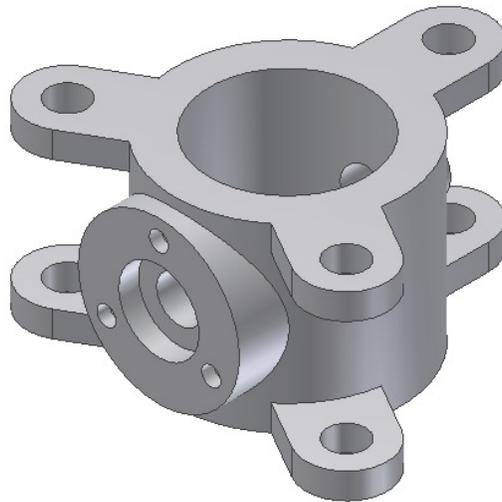

Figure 7-85 Final model after editing the features
f. After creating the features, edit them as mentioned in the tutorial description; refer to Figure 7-85.
3. Choose the **Update** button from the **Update** panel of the **Manage** tab; all the six instances of the third join feature are automatically modified. The model after editing the feature is shown in Figure 7-85.